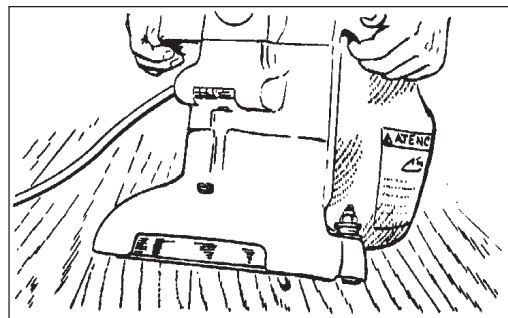

Figure 2
2. Return machine to upright position and tilt machine back on casters until it comes to rest on the exhaust bracket. Machine will be in a reclined position. Do not allow machine to rest on pad especially after use, or compression set may take place within elastomer on pad. This will create a flat spot and bounce during use. (Figure 2)
3. With the machine in the reclined position firmly grasp both handles and flip the control switch to the "ON" position. (Figure 2.)